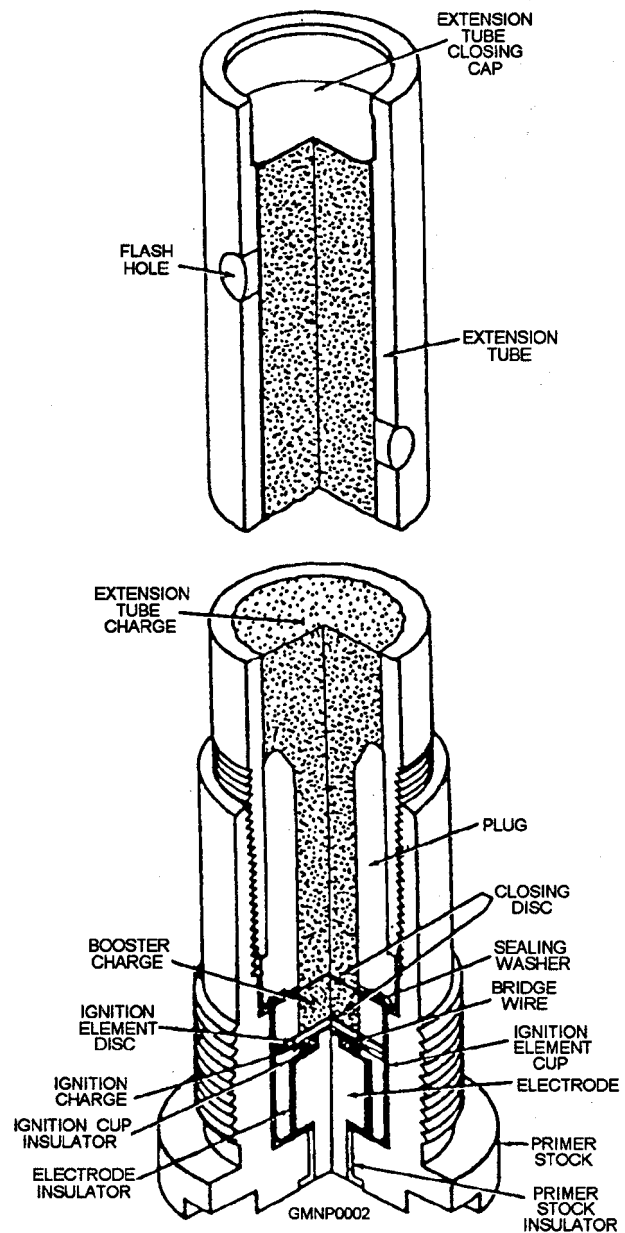

Figure 1-2.—Typical case electric primer.
The large quantity and relatively slow burning rate of gun propellant requires the use of another type of explosive train. The small flame produced by the initiating charge is insufficient to ignite the propellant grains thoroughly to produce an efficient burning rate of the entire charge. An explosive train consisting of an initiating charge, usually a mixture of lead styphnate and nitrocellulose (NC), detonates to ignite a small black powder booster which, in turn, ignites the larger black powder booster which, in turn, ignites the larger black powder igniter. The black powder igniter is contained in the extension tube. Figure 1-2 shows a typical electric primer used in a propelling charge. The primer extension tube of a 5"/54 powder charge is approximately 20 inches long, contains 52 grams of black powder, and has 32 vent holes.